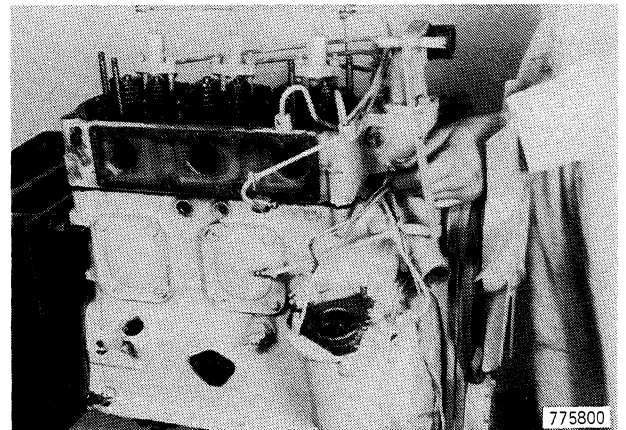

Figure 54
29. Disconnect the wire from the engine temperature sending unit, Figure 54.